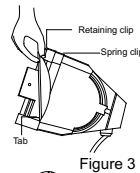

Figure 3
- 3.Hold the lens by the edge, and position it so the convex side faces the back of the fixture (Figure 3).